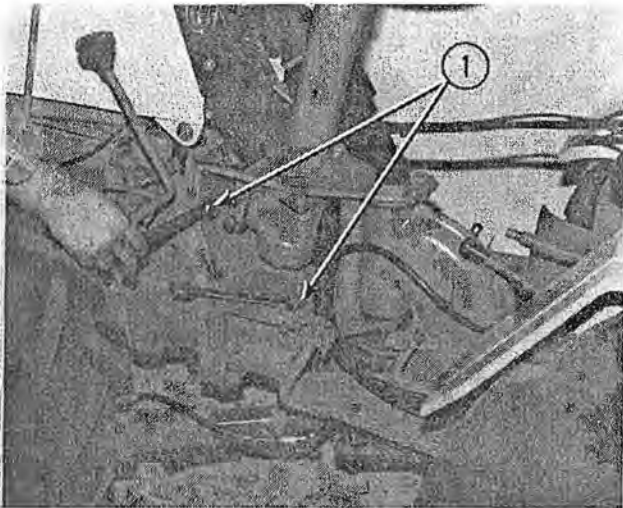

FIG. 8
- (9) Remove the (2) 14 x 35mm. bolts threaded into the transmission housing and the (4) 12 x 30mm. bolts threaded into the lower drive shaft support casting, (1, Fig. 8)